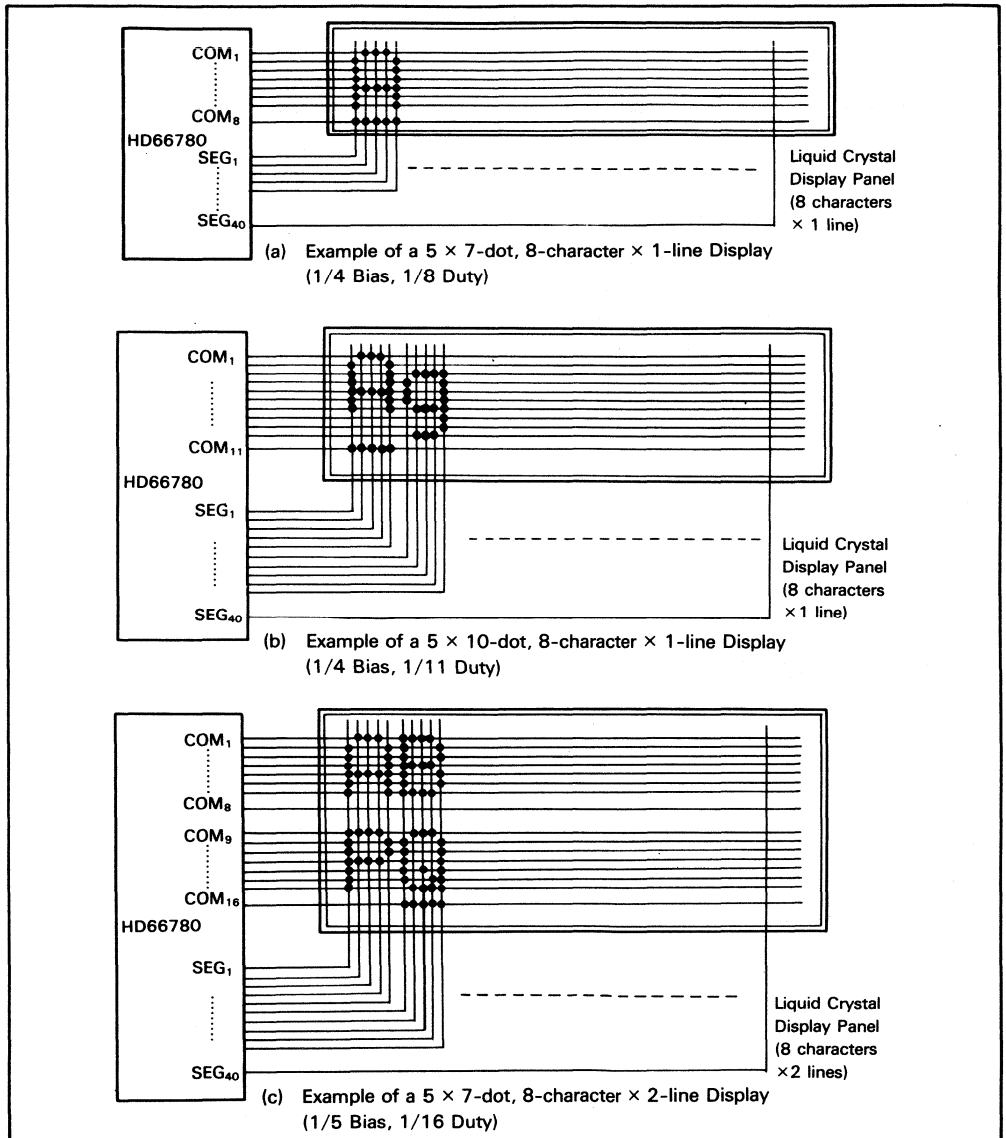

Figure 31. Liquid Crystal Display and Connections to HD66780
**Connection to HD66780 and Liquid Crystal Display:** Figure 31 shows connection examples. Since 5 SEG signal lines can display one digit, one HD66780 can display up to 8 digits
In figure 31 examples (a) and (b), there are unused common signal terminals, which always output non-selection waveforms. When the liquid crystal display panel has
In either case, the only change is the layout. Display characteristics and the number of liquid crystal display characters depend on the number of common signals (or duty factor). Note that the display data RAM (DD RAM) address for 8 characters  $\times$  2 lines and 16 characters  $\times$  1 line are the same as shown in figure 31.